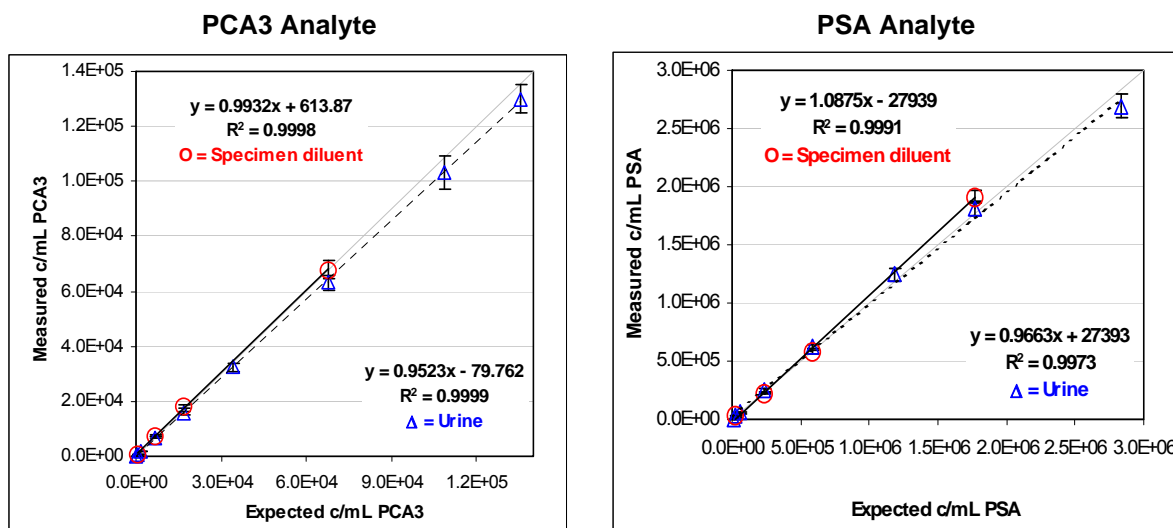

Figure 4. Progenas PCA3 Assay Linearity for PCA3 and PSA Analytes
The linear range of the Progenas PCA3 Assay was determined according to CLSI EP6-A (2003) (8) based on linear regression analysis (least squares). Two sets of dilution series were prepared from specimens containing high concentrations of PCA3 and PSA RNA. One set was diluted into processed female urine and one set was diluted into specimen diluent. Dilutions spanned the entire assay range between the lowest and highest positive calibrators for each analyte. For both PCA3 and PSA analytes, assay-measured results showed a direct proportional relationship between the dilutions tested and the analyte c/mL reported. There was no significant diluent matrix effect. See Figure 4.